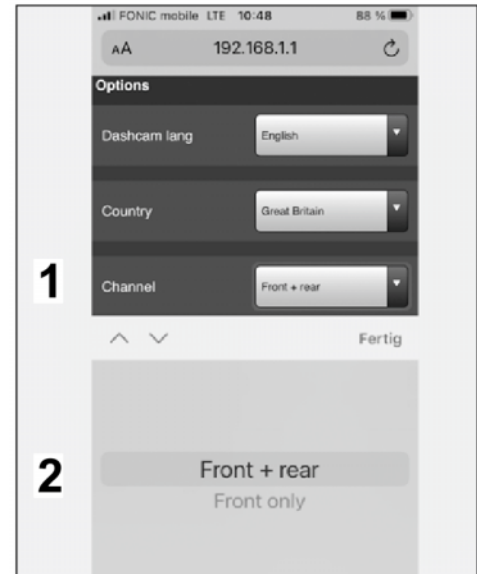

Figure 29
5.3.3 Select camera channel (⇒ *Figure 29*).